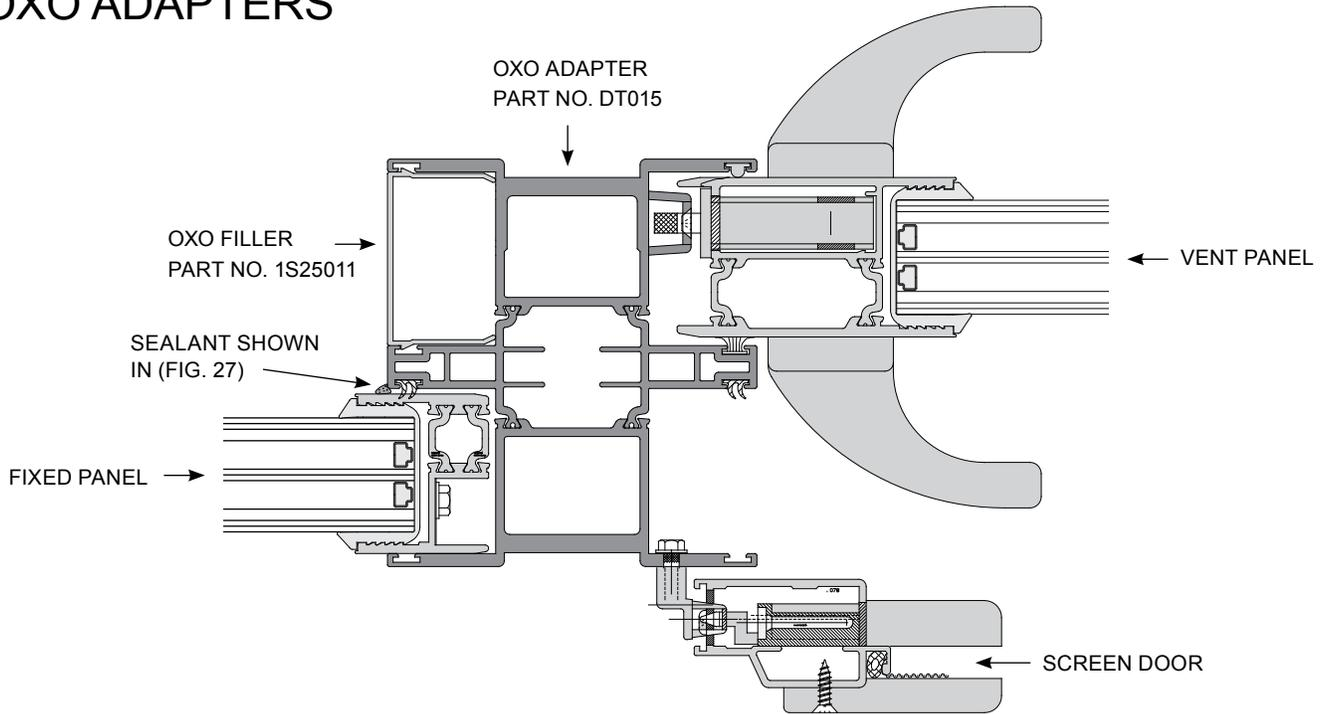

FIG. 56
11. Snap in the OXO filler Part No. 1S25011 shown in FIG. 56.